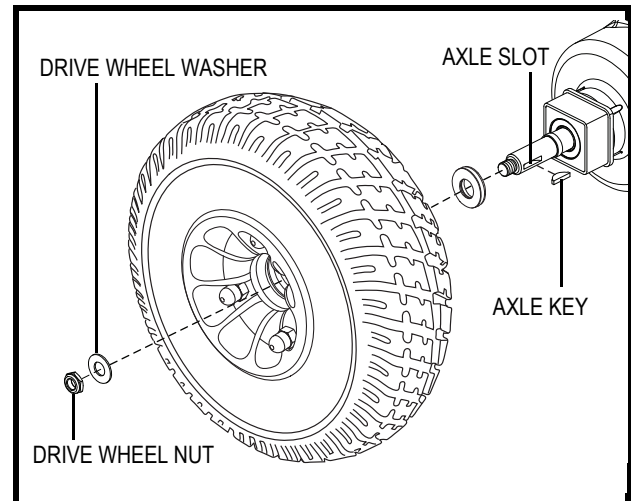

Figure 25. Drive Wheel Removal
4. Remove the drive wheel nut and washer from the axle. **See figure 25.**
9. Slide the wheel back onto the axle. Make sure that the axle key is in the axle slot. **See figure 25.**